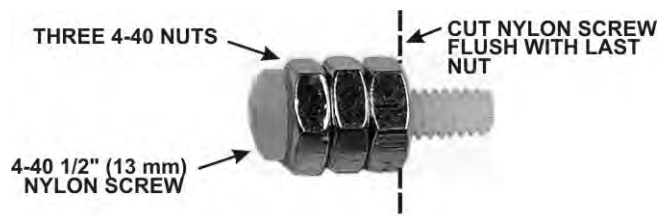
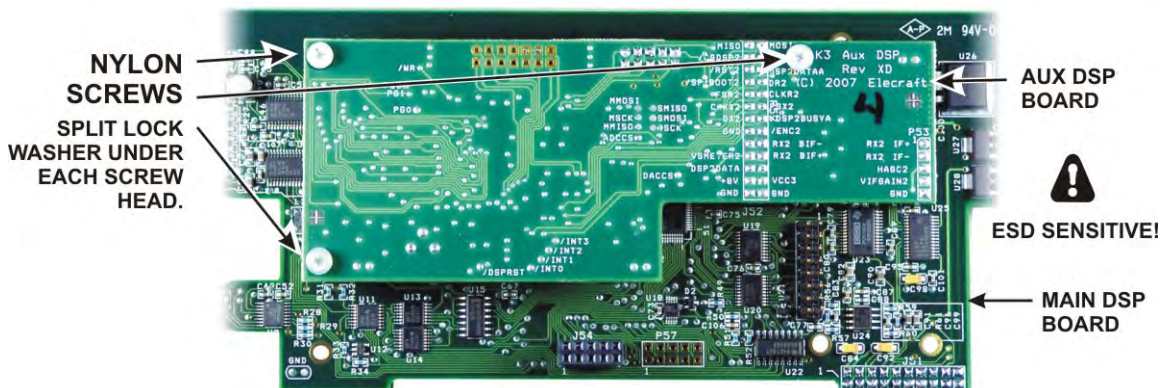

Figure 52. Preparing the Nylon Screw.
Figure 54. Mating the Main and Auxiliary DSP Boards.
- Screw three 4-40 nuts onto the 1/2" (13 mm) 4-40 nylon screw as shown in Figure 52.
□ Plug the aux DSP board into the main DSP board by mating P52 and P53 on the aux DSP board (at the narrow end) with J52 and J53 on the main DSP board. When fully seated, the connectors should be fully engaged so that the pins do not show and the aux DSP board should rest against the top of the standoffs with the holes in the board aligned for the screws (See Figure 54). Note that a two-row 10-pin connector at the top of the aux DSP board does not mate with anything on the main DSP board. That is normal. Attach the boards with three 4-40 1/4" (6.4 mm) *nylon* screws or the nylon screws you trimmed to length earlier (see Figure 52). Place a split lock washer under each screw head. Do not place washers between the standoff and the pc board. **Be careful tightening the nylon screws. They are easily stripped!**